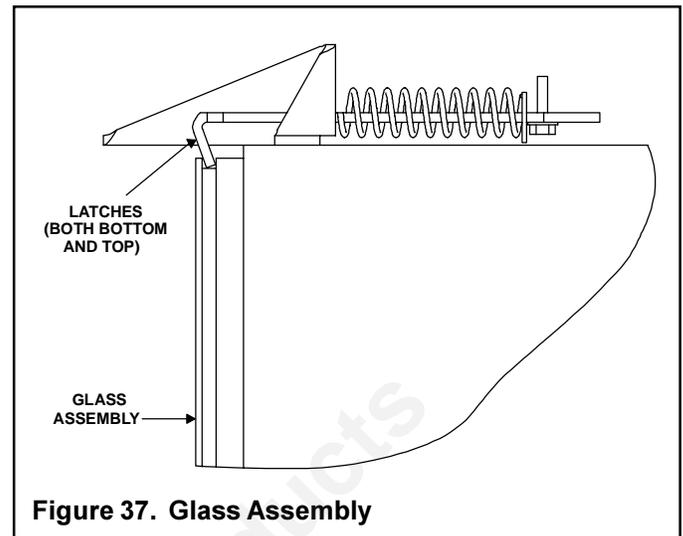

Figure 37. Glass Assembly
- Pull the four glass latches out of the groove on the glass frame. Remove glass door from the unit (see Figure 37).